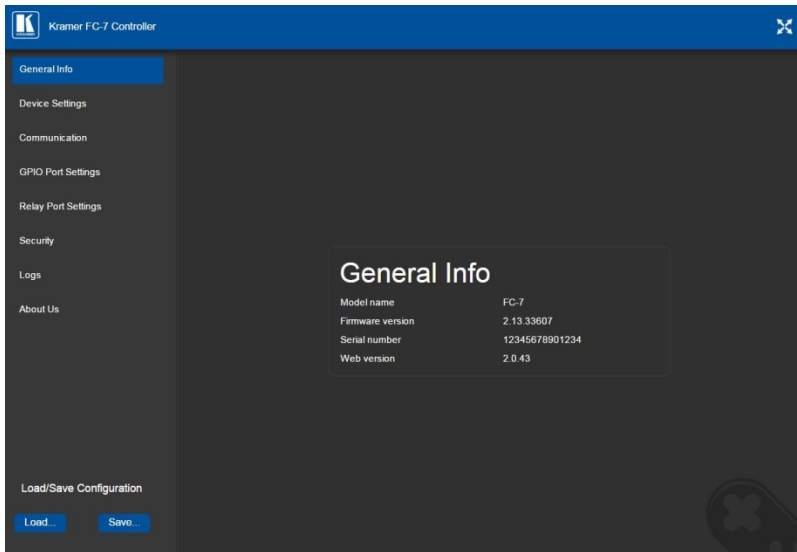

Figure 11: General Info Page
2. Using a Web browser and the relevant IP address or host name (see Section 10), browse the General Info home page (see Figure 11).
The Loading page appears followed shortly by the General Info page shown in Figure 11.